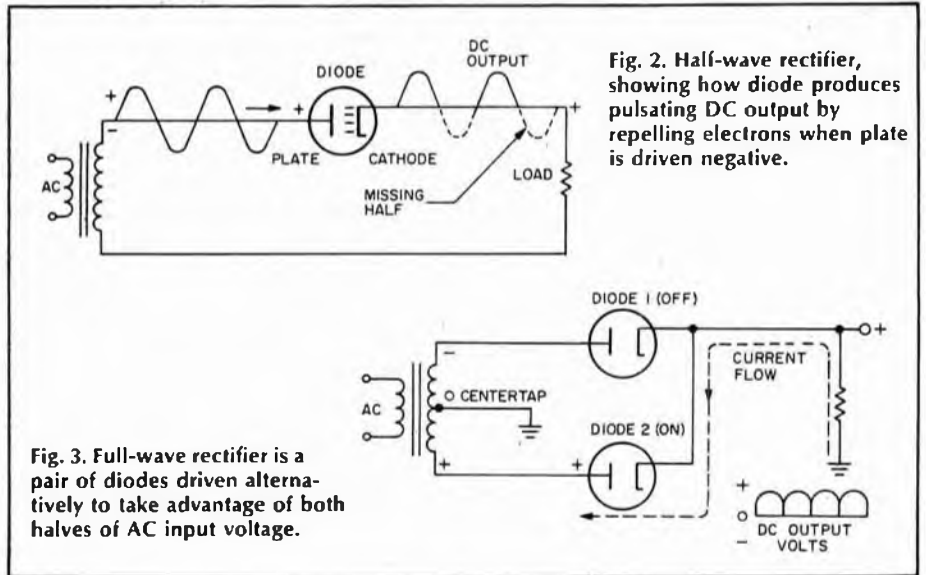

Fig. 3. Full-wave rectifier is a pair of diodes driven alternately to take advantage of both halves of AC input voltage.
**Full-Wave Supplies.** Transmitters and higher-power equipment overcome the half-wave's shortcomings with the full-wave system. It's nothing more than a pair of diodes that are driven alternately so they consume every bit of AC input voltage. The key to full-wave operation is the centertap on the transformer's secondary winding. As applied AC appears across the complete winding, it makes the top end negative (as shown in Fig. 3) and the bottom end positive.